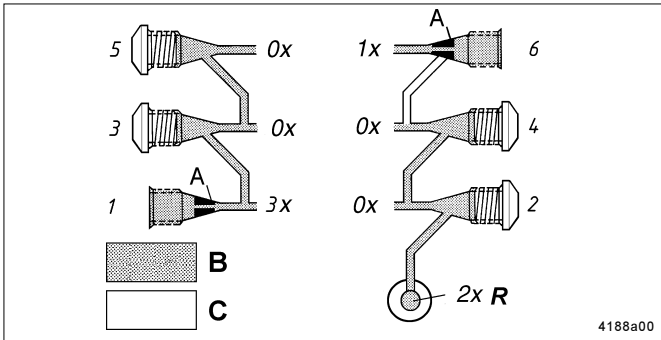

Fig. 4 - Internal feedback of supplied lubricant, only on back-side mounted SSV divider blocks (up to serial No. 998000099C/001)
- All pumps with the **back mounted SSV divider block**, have the capability to feed back unused lubricant from closed outlets directly to the reservoir internally (see R Fig. 4, 5).
- The pumps up to serial No. 998000099C/001* and pre serial numbers 9910006711/004* have capability to feed back the lubricant directly to the reservoir only from even outlets, see Fig. 4. For instance on a SSV 6 divider block, the outlets 2, 4, 6 are closed.